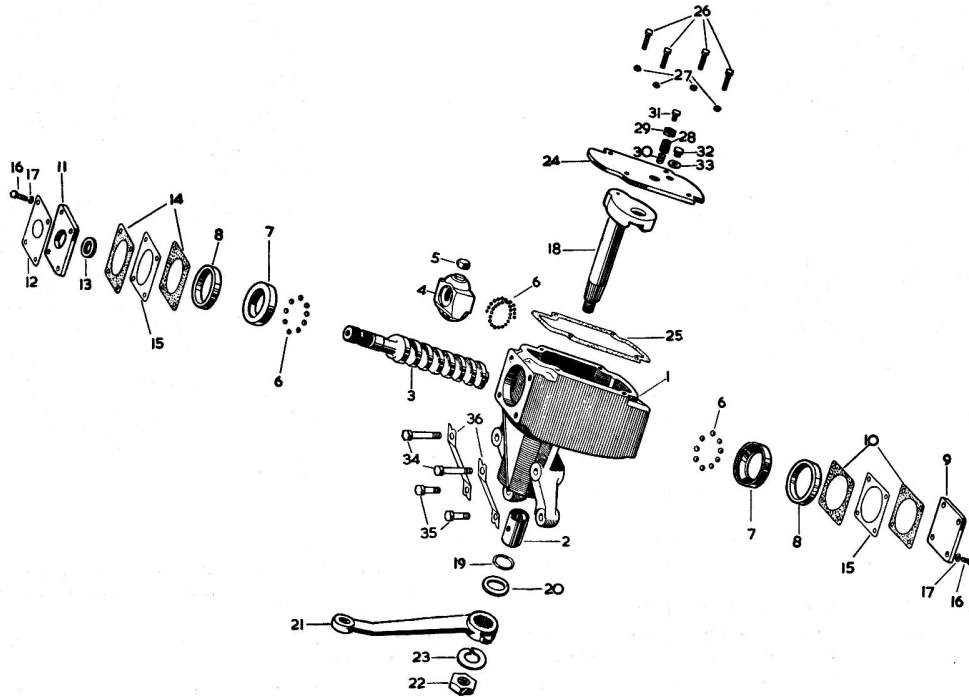

FIG.11.23. THE STANDARD STEERING BOX
2 Refer to the exploded view of the steering box at Fig.11.23.
- 2 Remove the bolt (31 in Fig.11.23) and the spring underneath it and unscrew the rocker shaft adjustment screw (28 in Fig.11.23) until it is fully clear of the rocker shaft.
- 3 Unscrew the spring tension bolt (item 31 in Fig.11.23) and take out the spring.
- 4 Slacken the locknut (item 29 in Fig.11.23) and screw down on the adjuster screw by hand until it contacts the rocker shaft.